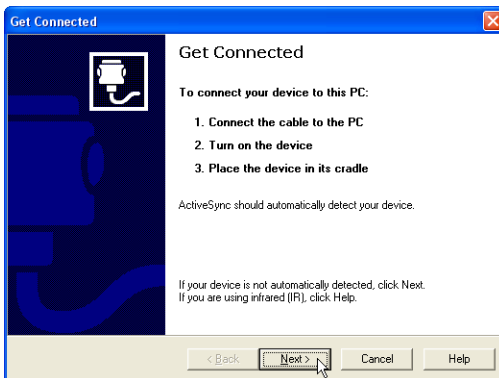

Figure 1-4. ActiveSync – Get Connected
5. Click **Next** on the *Get Connected* dialog box (Figure 1-4).